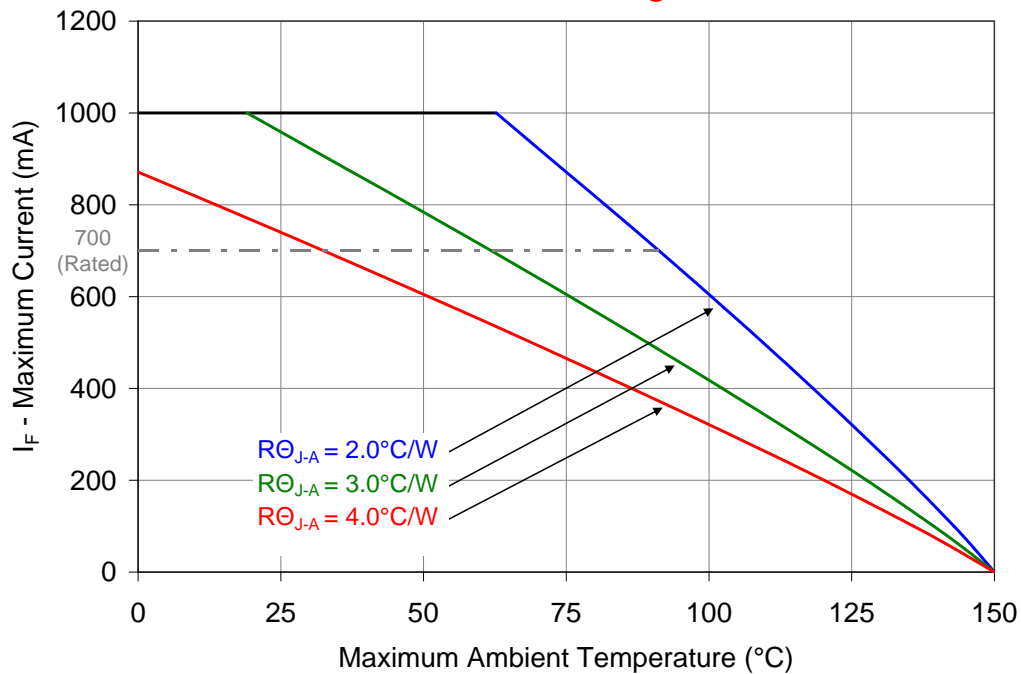

Figure 10: Maximum forward current vs. ambient temperature based on $T_{J(\text{MAX})} = 150^\circ\text{C}$.
- Maximum DC forward current (per die) is determined by the overall thermal resistance and ambient temperature. Follow the curves in Figure 10 for current derating.
Notes for Figure 10: